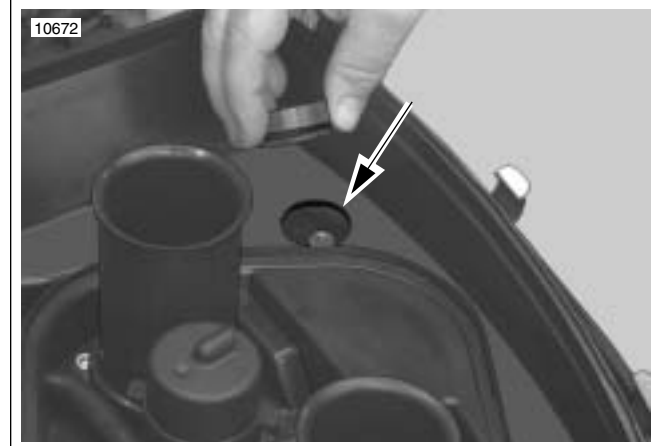

Figure 1-18. Cooling System Air Bleed Plug
2. See Figure 1-18. Remove cooling system air bleed plug.